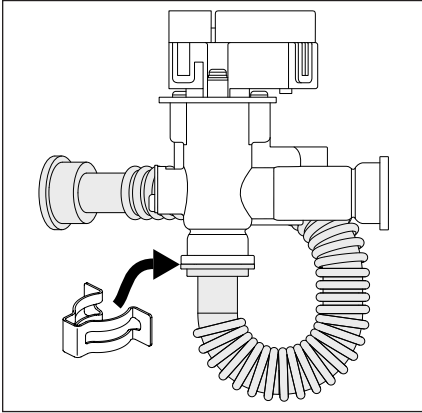

Figure 55 - Install Flex Hose to Smart Valve
- 12** Remove new Smart Valve from service kit. Install male end of flex hose with o-ring to Smart Valve outlet as shown in Figure 55.
- 13** Remove one (1) spring clip from kit. Install spring clip over Smart Valve outlet and flex hose to secure the assembly as shown in Figure 55.